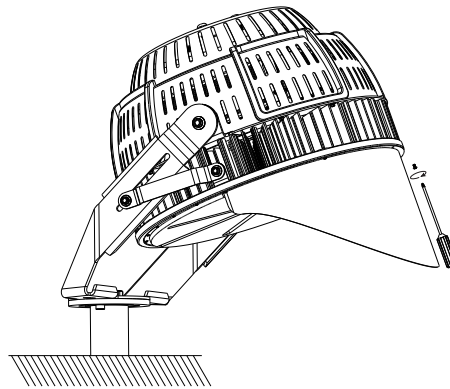

Figure 11
6. Fix the light barrier to the luminaire with a screwdriver as required (figure 11)